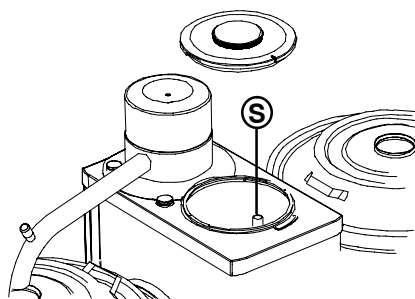

Fig. 22 Overflow pipe hot water system
- Discharge the last bit of water through the overflow pipe. For this, pull the overflow pipe (S.), that is found in the hot water boiler, up by the short hose (fig. 22 ).
- Discharge the last bit of water through the overflow pipe. For this pull up the overflow pipe (S., fig. 22 ).